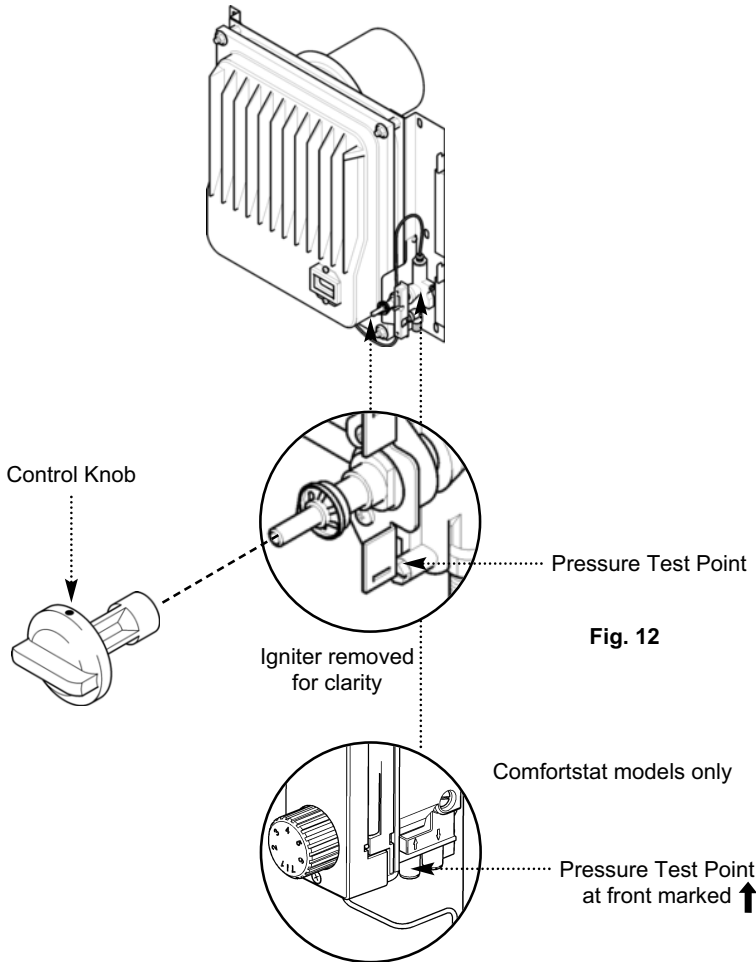

Fig. 12
2. Where applicable, fit the control knob onto the control tap spindle (Fig. 12).
Fit a pressure gauge to the pressure test point (Fig. 12).
2. On models not fitted with the Comfortstat control, remove the knob from the appliance by gently pulling the knob forward (Fig. 12).